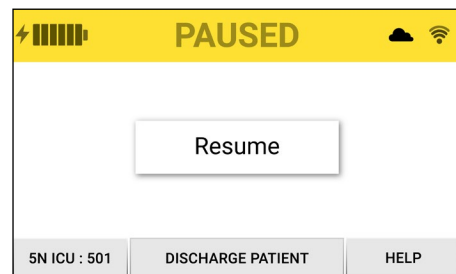

Figure 9. Paused - Procedure Table
2. A Paused screen (no timer) will display with a yellow status bar. (Fig. 9)
3. Controller operation will be Paused indefinitely until the user restarts therapy. Press "Resume" to re-start therapy at any time. (Fig. 9)